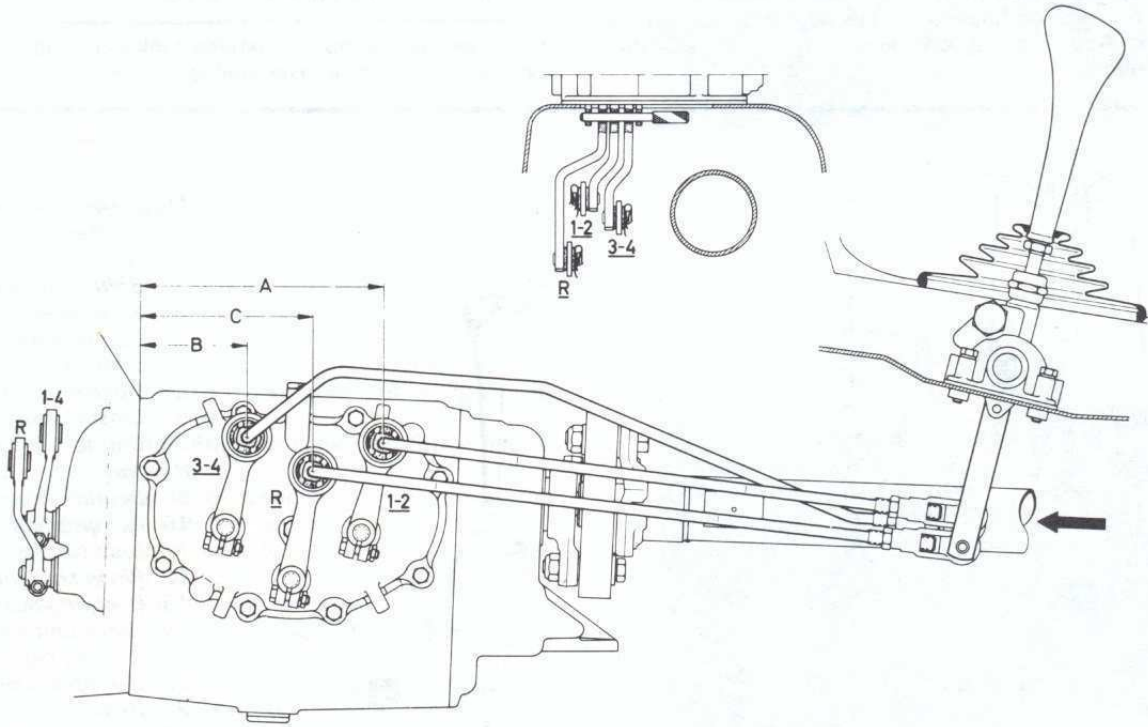

Fig. 6.23 Shift lever neutral setting dimensions on four-speed models (Sec 9)
- 4 Move the shift levers into neutral and check the dimensions shown in Figs. 6.23 and 6.24. Reposition the levers on the splines if necessary.